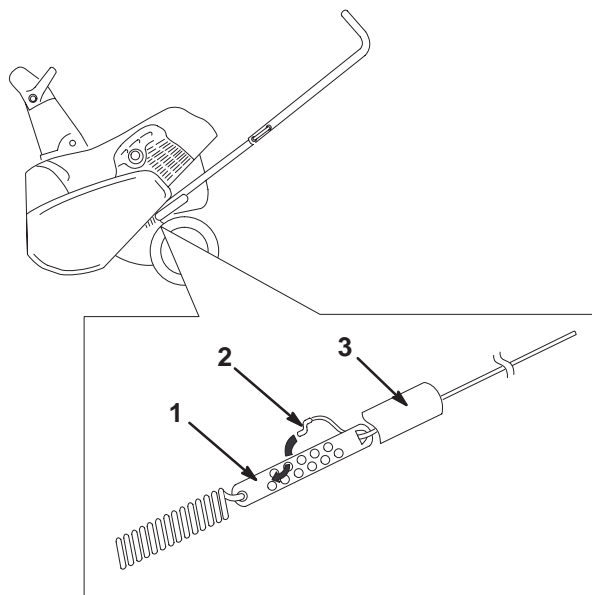

Figure 18
2. Slide the spring cover up the cable to expose the cable adjuster (Fig. 18).